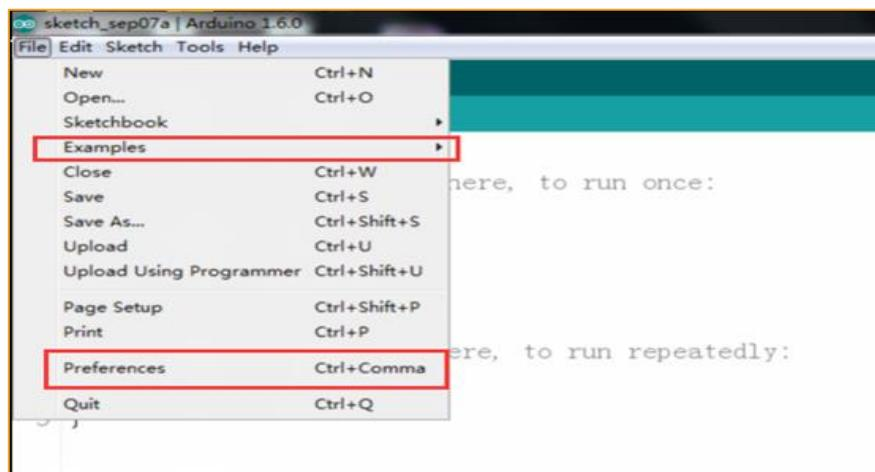

Figure 2-2-13 File Menu Bar Options
2. There are 5 menus on the menu bar, but we mainly introduce File and Tools. Click File, the interface as shown in Figure 2-2-13 will be displayed, you can see the Examples and Preference options. The Examples are some of the Arduino's own programs, these are compiled without errors, the normal use of the program, a great help for beginners. The Preference option, It's mainly about the parameter settings, such as language, fonts and so on.